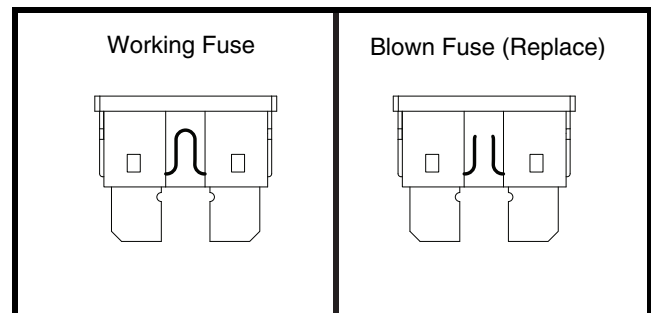

Figure 27. Fuse Replacement
2. Examine the fuse to be sure it is blown. See **figure 27**.